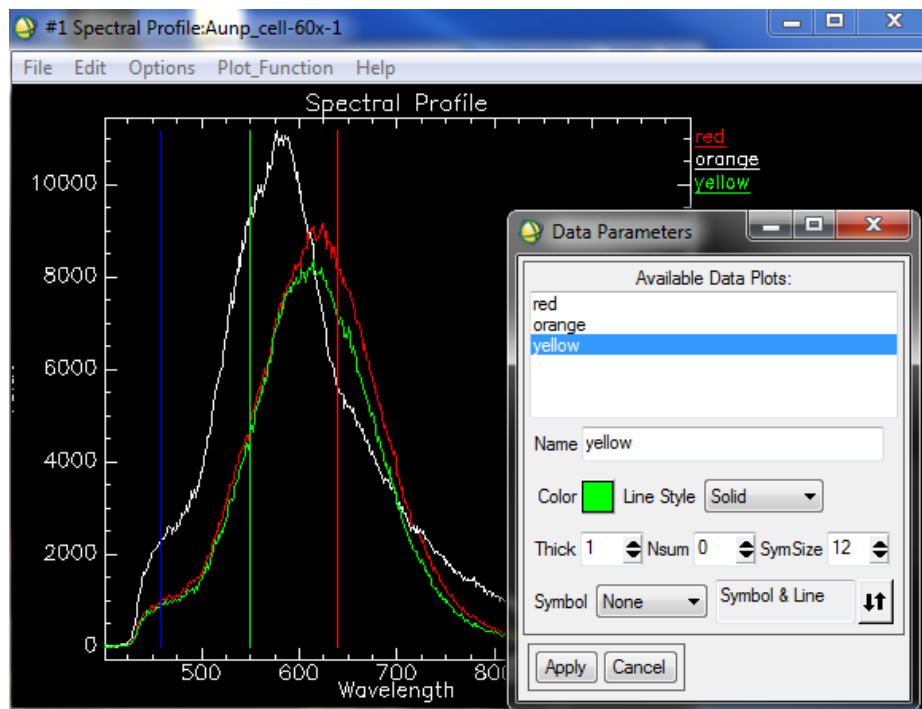

Figure 3.5a. Spectral curves from three nanoparticles
- You may end up with three very distinct curves (Figure 3.5a).